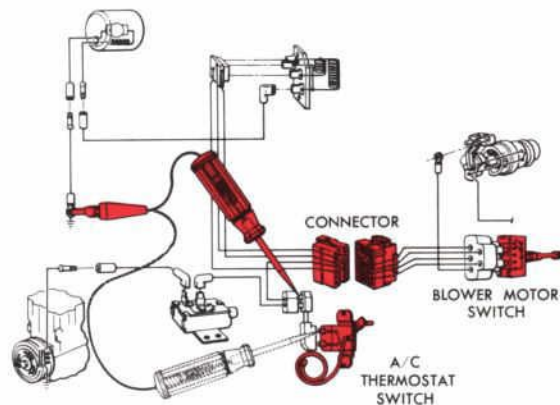

Figure 22—Testing Thermostatic Switch
4. To test the thermostatic switch, move the probe to the input terminal (Fig. 22). If the light glows now, but didn't before, the thermostatic switch isn't functioning and should be inspected and tested.